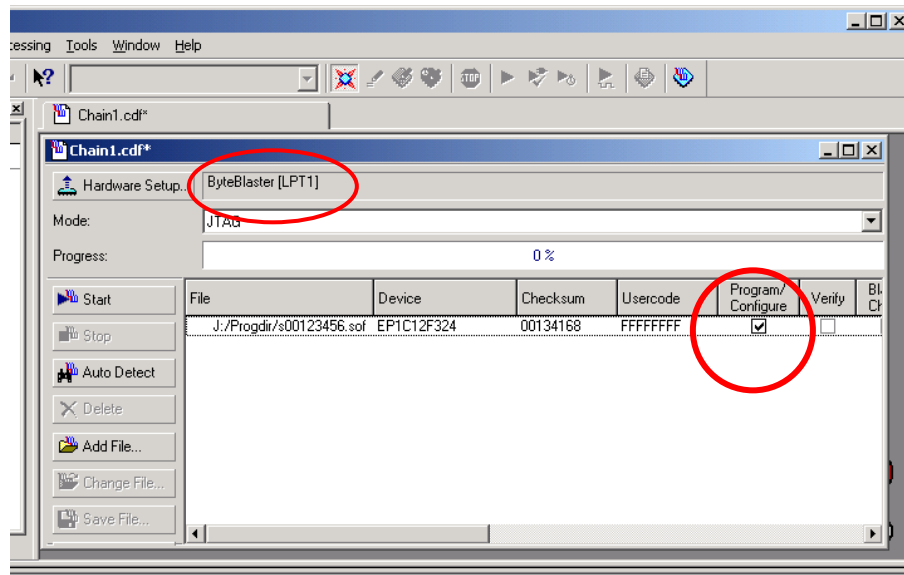

Figure 5.11: Settings for programming the LiveDesign Evaluation Kit
- Check that "Program / Configure" is enabled (see Figure 5.11).